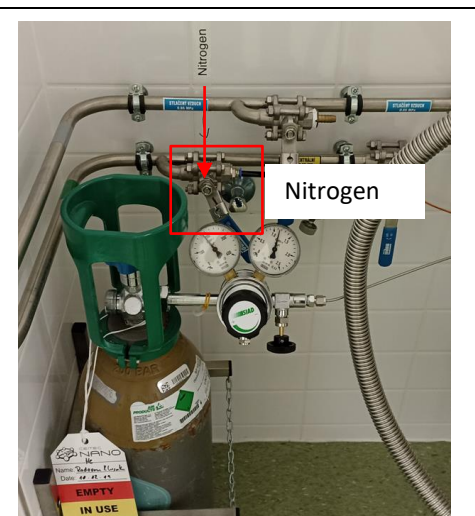

Fig. 2: Main seal for nitrogen.
- Open the nitrogen line** - the main switch (Fig. 2). The maximum pressure should be around 0.07- 0.1 MPa. The reduction valve is set, do not touch the valve.